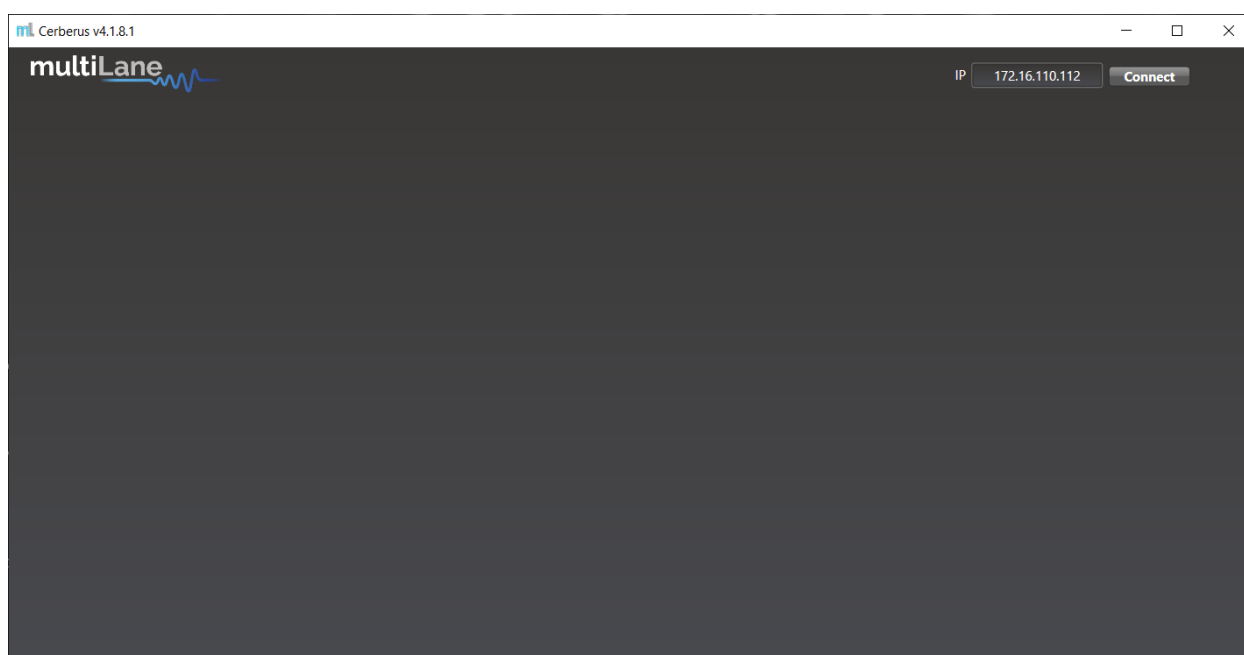

Figure 2: Connection box
- **Connect** using the IP address of the target instrument(s) (Figure 2). The IP address is printed on the back side of the instrument.